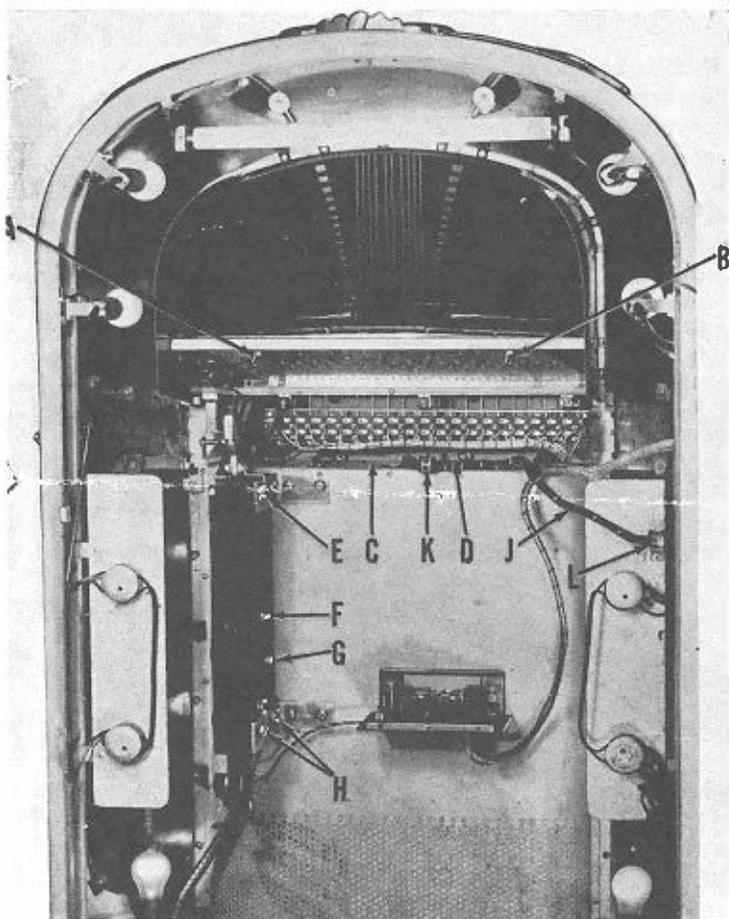
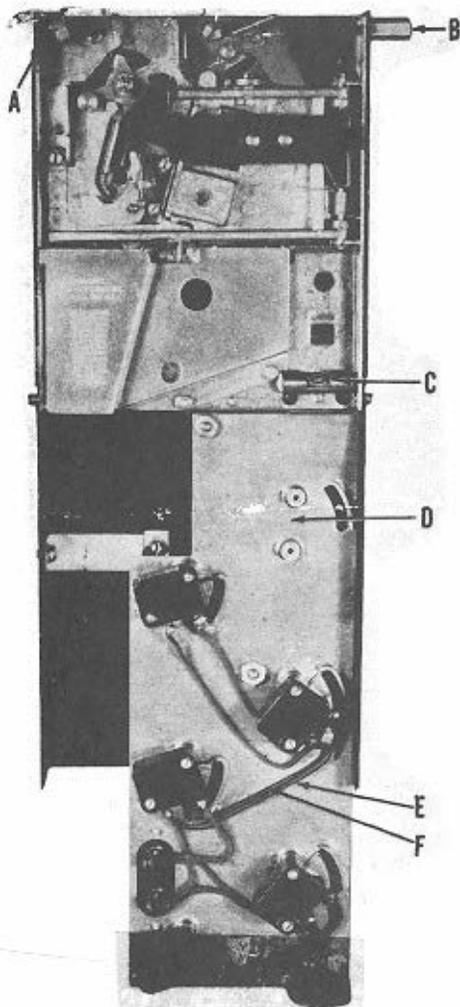

Fig. 1 - Inside Front Door
Fig. 6 - Slug Rejector Assembly
1. Program panel snaps out by unlocking two springclips (A and B-Fig. 1).
1. To remove panel—loosen (do not remove) two screws located under twenty key switch bank between (C and D-Fig. 1) and remove third screw centered above.
4. To remove color cylinder—unhook cord (J-Fig. 1) from clamps (K and L-Fig. 1).
2. Check spirit level (C-Fig. 6). Adjustment made by loosening wing nuts (E and H-Fig. 1) and moving rejector unit back or forth until bubble in spirit level is centered between two marking points. Tighten nuts after adjustment is completed.
4. To remove slug rejector—remove hexagon nuts (A and B-Fig. 6). Raise unit upward then slip forward, making certain that slot at lower right hand corner clears tongue of drop switch.
For six plays for 25¢, install assembly No. 13101 at (D-Fig. 6).
For 1 play for 10¢, three plays for 25¢, remove wires (E and F-Fig. 6). For modification of slug rejector (to reject five cent coins), drawing No. 12694 furnished upon request.
1. Remove wing nut (G-Fig. 1) and thumb screw (F-Fig. 1).